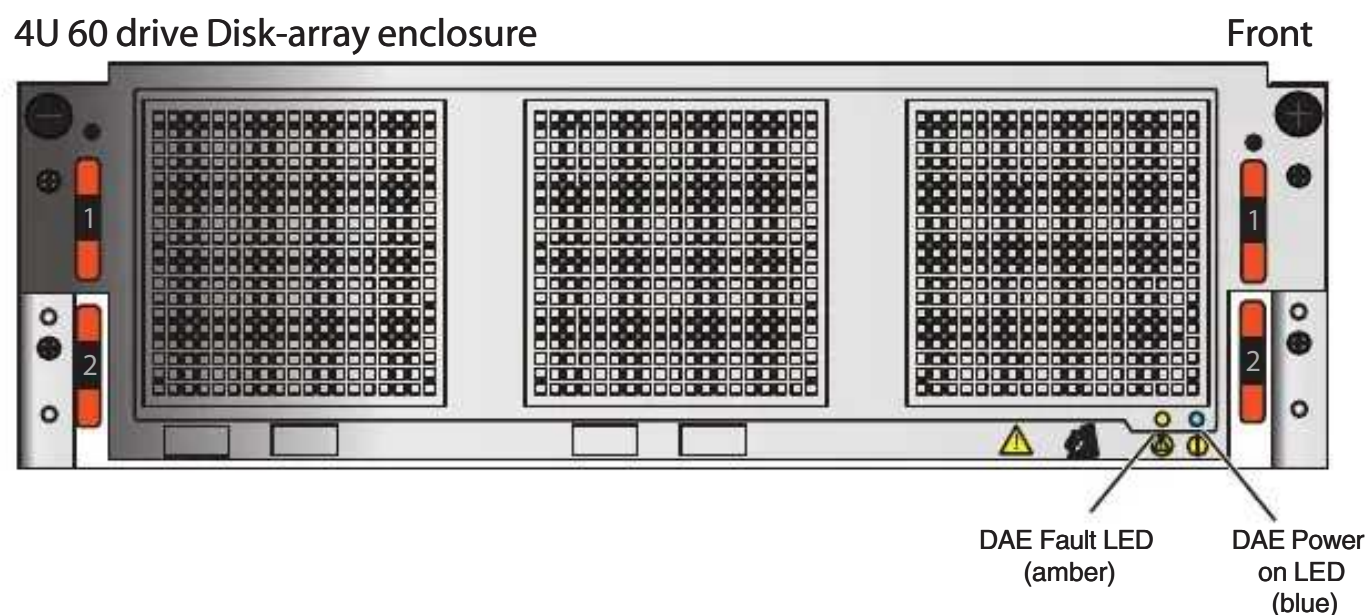

Figure 27 4U 60 drive DAE LEDs
1. Verify that the status of the 4U DAE Power LED located on the front is solid blue and the DAE Fault/Status is off as shown in Figure 27.